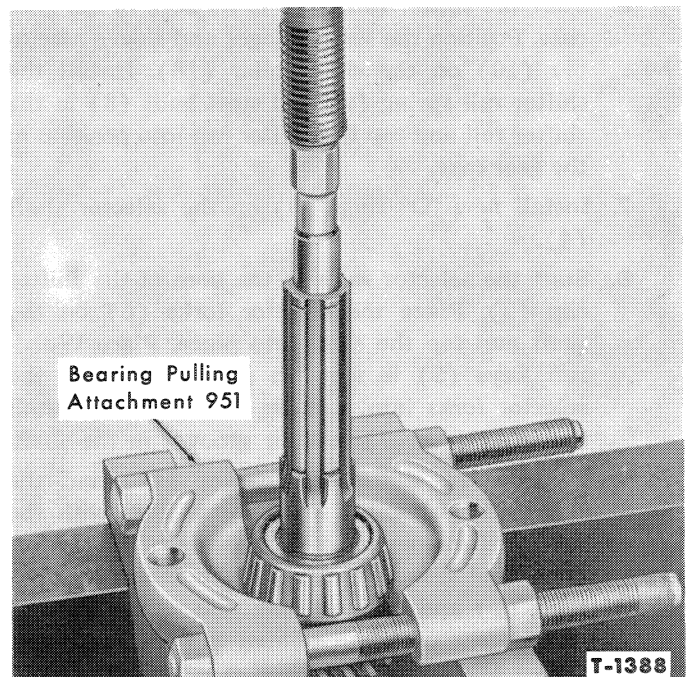

Figure 41—Removing Tapered Bearing from Drive Gear
9. Remove the clutch shaft roller bearing (22) and small thrust washer (21) from the front end of the drive gear.
10. Remove the snap ring (20) from the front end of the drive gear and remove the shift collar (18), the spline sleeve (19), the large thrust washer (17), the reverse gear (15), the roller bearings (14 and 16), and the drive gear spacer (13). Withdraw the drive gear (29) assembly from the rear end of the gear case.
11. With Bearing Pulling Attachment 951 and arbor press, remove the tapered bearing (31) from the drive gear (29) as shown in Figure 41.